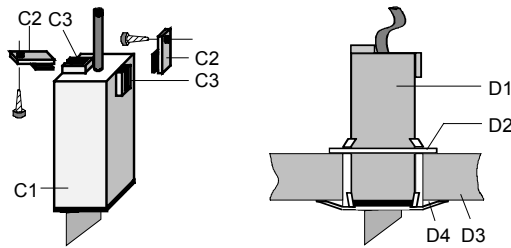

Figure 4: Mounting the receiver
Mounting of the receiver (Figure 4)
- The receiver of the brightness controller GE 252 alternatively can be fixed to a mounting support (see Figure 4).